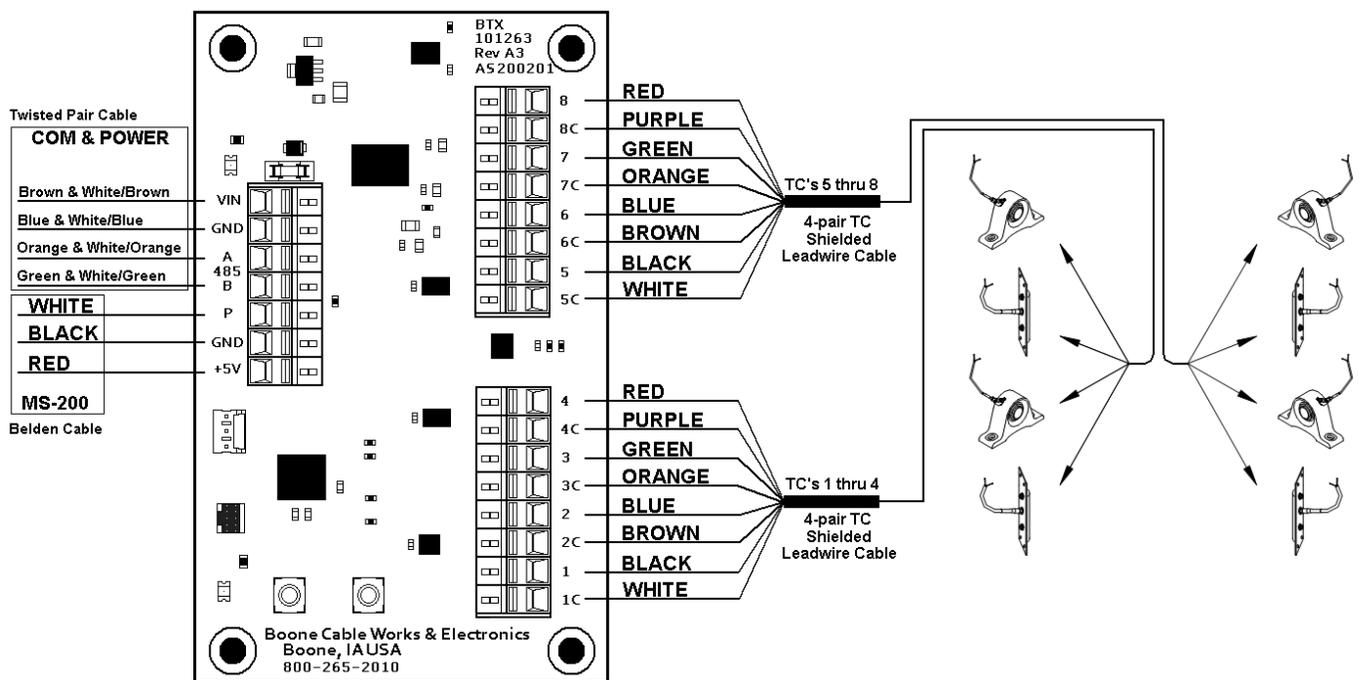

Figure 8. BTX Connections to sensors
4.4.1. BTX Thermocouple Leadwire Cable; Same as 4-TC Shielded Leadwire Cable. it runs from a grouping of Temperature Sensors to the input side of a BTX board. (See figure 8).
Good connections are critical to the integrity of the system. Attention to detail here will yield a trouble-free system and greatly reduce startup problems. Wire-to-wire splicing, is done for example where the sensor pigtails are connected to the *4-pair TC Shielded Leadwire Cables* so it can be extended to the *BTX Module Board*. (See figure 8). It is also done where a section of *Twisted Pair Wire* needs to be extended or branched off in another direction. Splices should never be made and pulled into the conduit run.